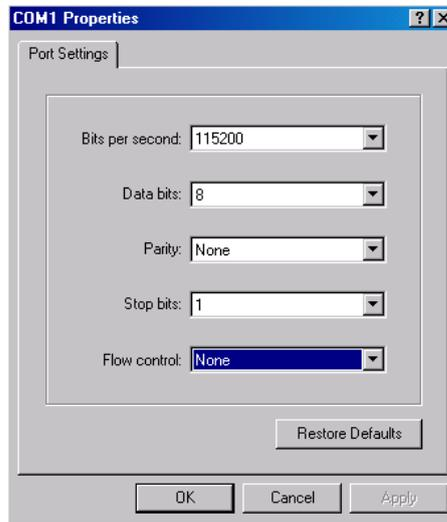

Figure 6-7 Setting port property
3. In the **Connect to** interface, choose the serial port being used (such as 'COM1'), and click **OK**, as shown in Figure 6-7.
4. Set the communication parameters as shown in Figure 6-7 and click OK.